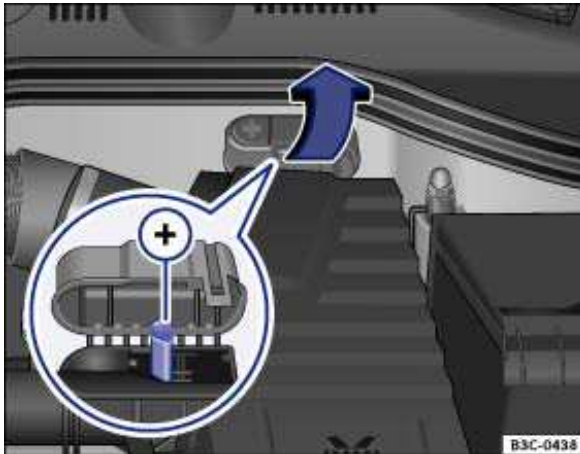

Fig. 196 In the engine compartment: Positive jump start terminal +.
2. Open the battery cover in the engine compartment if the battery has a cover or flip open the cap on the positive jump-start terminal¹¹, ⇒ fig. 196 (+).
3. Attach one end of the *red* jumper cable to the **positive terminal (+)** of the dead battery: (1) ⇒ ⚠.
4. Attach the other end of the *red* jumper cable to the **positive terminal (+)** of the good battery (booster battery): (2).
5. Attach one end of the *black* jumper cable to the **negative terminal (-)** of the booster battery: (2) .
6. Attach the other end of the *black* jumper cable (3) to a **bare metal part of the vehicle with the dead battery**. This part should be connected directly to the engine block. You may also attach the cable to the engine block itself. Attach the clamp to a point that is as far away as possible from the dead battery (1) ⇒ ⚠.